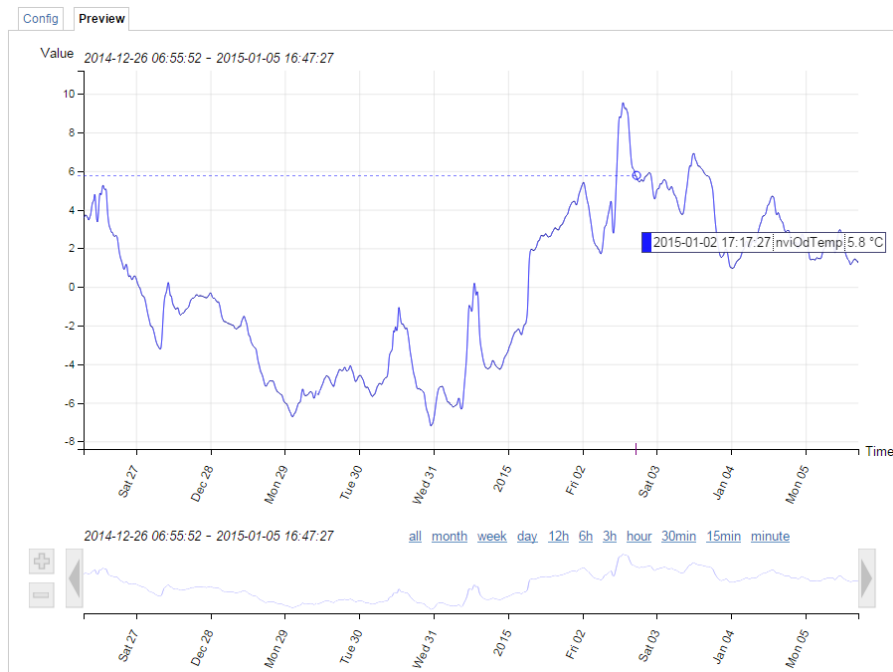

Figure 25: New trend chart on the Web UI
- The trend log configuration on the Web UI now also provides a preview tab, which shows a chart of the trend log data. The trend chart allows zoom, scrolling and hiding specific data curves, as shown in Figure 25.